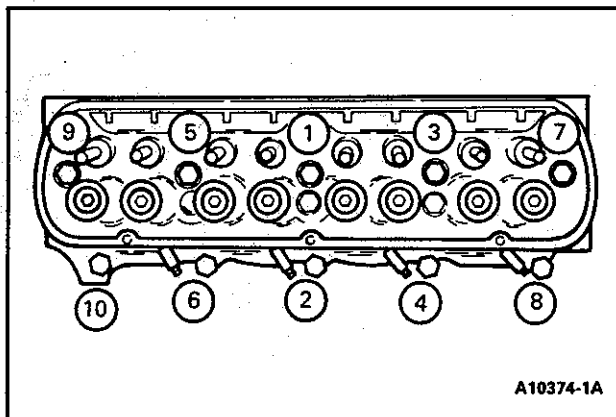

Figure 53 Cylinder Head Bolt Tightening Sequence
3. The cylinder head bolts are tightened in two or three progressive steps. Tighten all the bolts in sequence (Figure 53) to specifications. When cylinder head bolts have been tightened following this procedure, it is not necessary to retighten the bolts after extended operation. However, the bolts may be checked and retightened if desired.